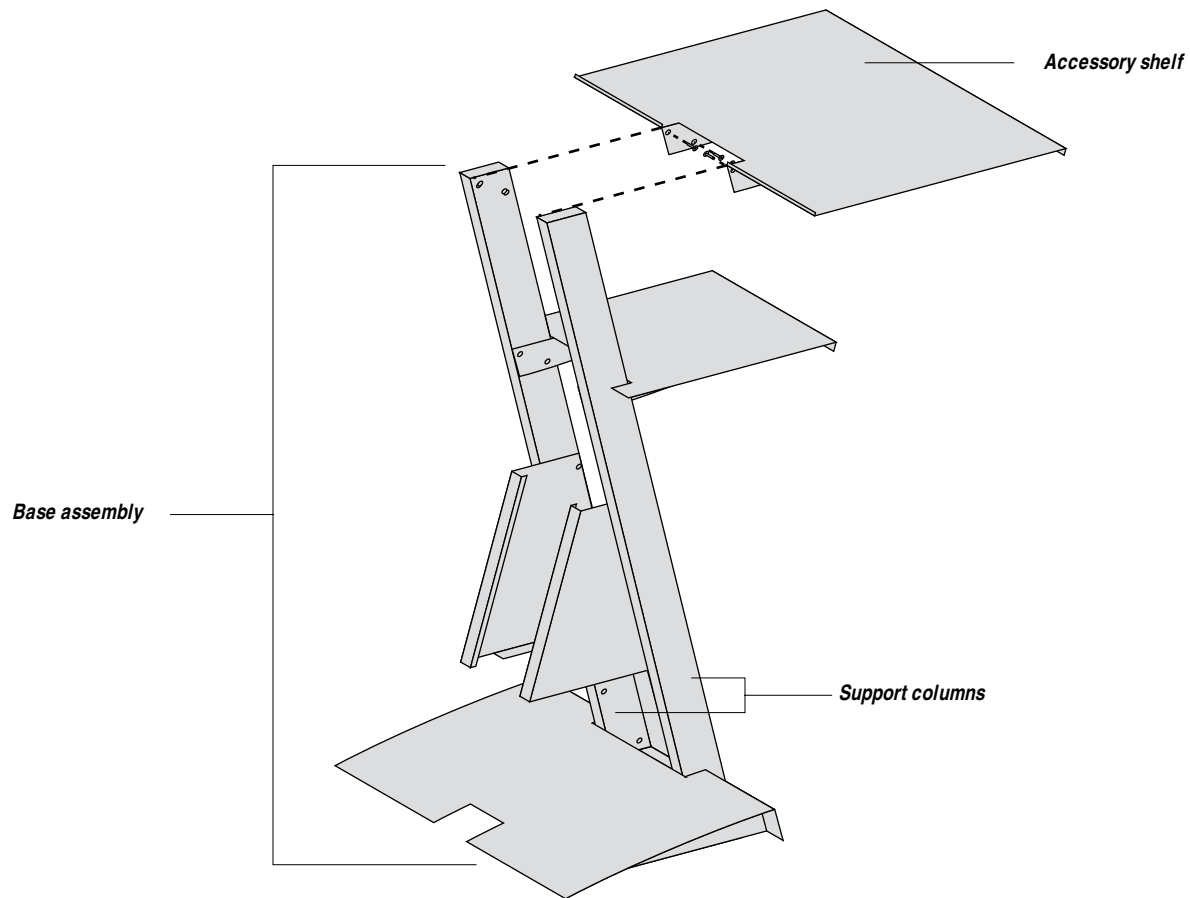

Figure B-2 Fiery XJ BP100 furniture — exploded view
4. *Attach the large accessory shelf to the support columns using the four flat-head screws (see Figure B-2 below).*